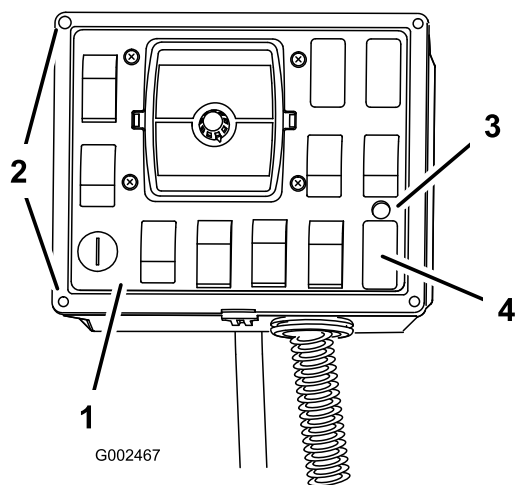

Figure 19
2. In the area just above the sonic boom switch plug, drill a 0.375 inch diameter hole to accommodate the indicator light (Figure 19).
8. Install the front control panel cover to the control box using the fasteners removed previously (Figure 19).